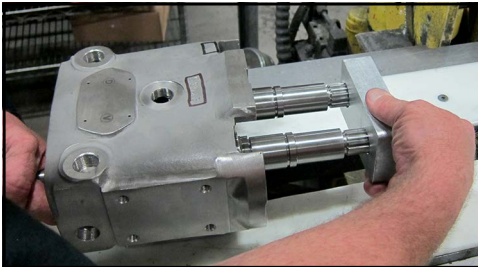

Figure 255 - Block shafts
1. Block the shafts from turning as shown in Figure 255.